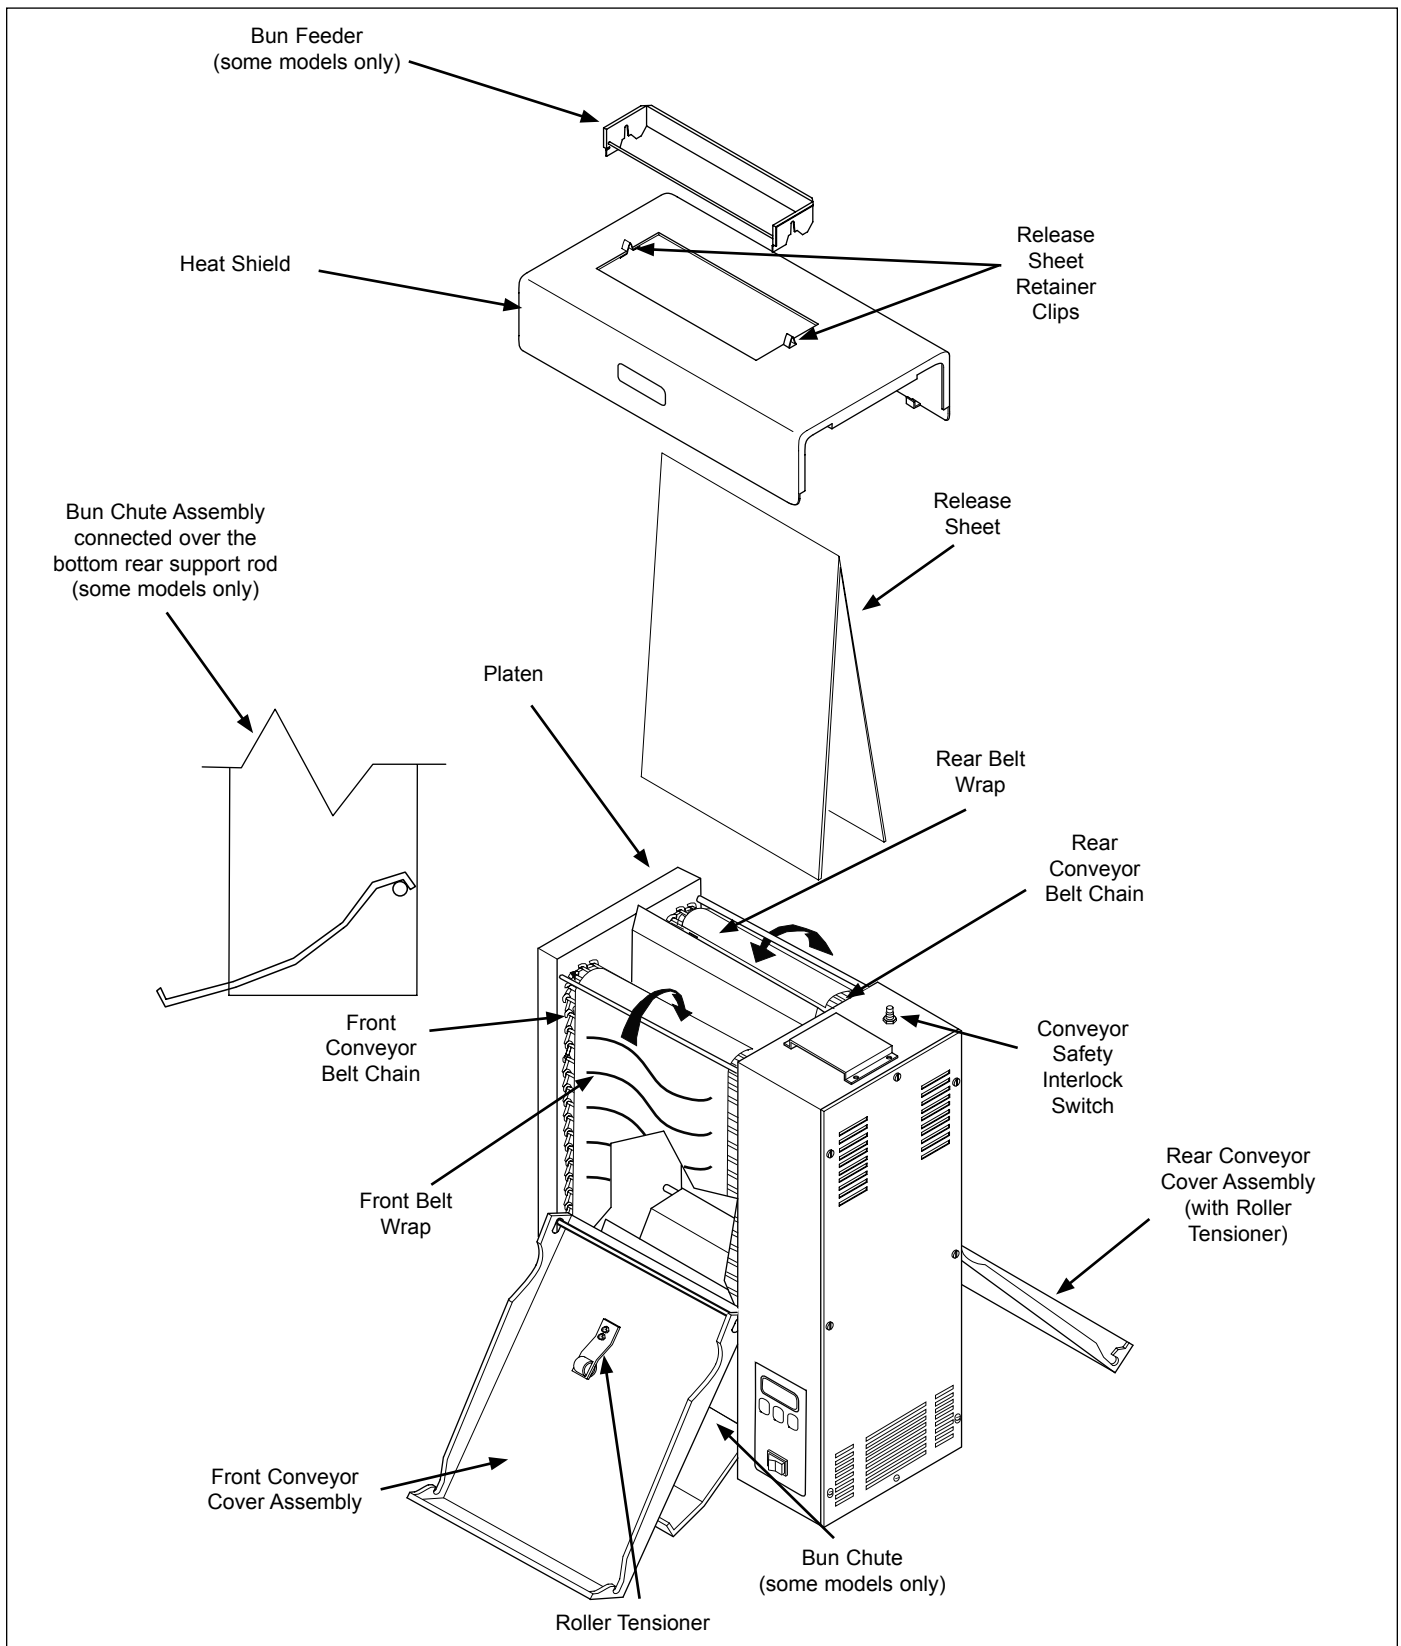

Figure 1. VCT-2000 Toaster
- Bun Chute (Figure 1).
- Bun Feeder (Figure 1).
- Two Release Sheets (Figure 1).
NOTE: The factory has pre-installed a Release Sheet over the Platen (Figure 1). Verify that it is properly in place before proceeding.
1. Remove Bun Chute and Bun Feeder from the box and install (Figure 1).
NOTE: Make sure Heat Shield Assembly is activating the Conveyor Safety Interlock Switch (Figure 1). The conveyors will not rotate unless the Heat Shield is in place and Conveyor Safety Interlock Switch is activated.